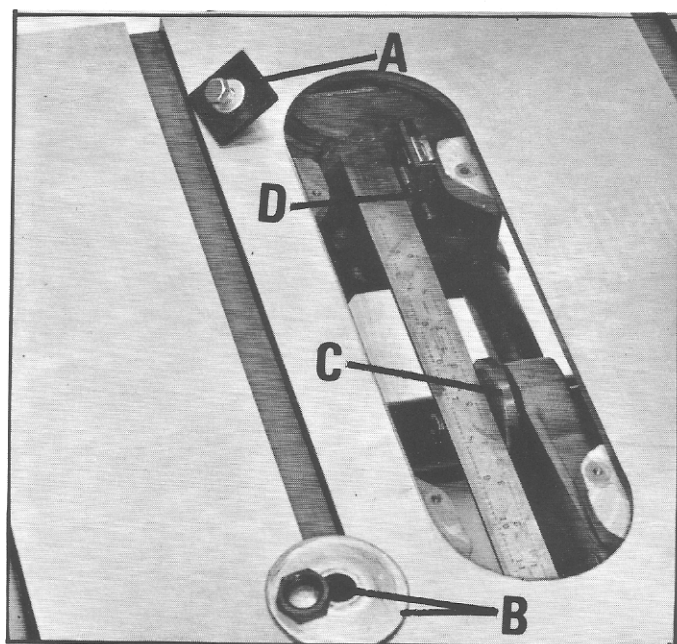

Fig. 19
1. Remove cap screw, washer and outer splitter bracket holder (A) Fig. 19. Also remove blade, blade arbor nut and flange (B).
2. Hold a straight edge against the saw arbor flange (C) and splitter bracket (D) Fig. 19, and check for alignment on the top and bottom of the splitter bracket (D). If an adjustment is necessary loosen two screws that hold splitter bracket (D) to the trunnion and shift the bracket (D) to bring it into alignment with saw arbor flange. Then tighten the two screws that hold splitter bracket. NOTE: Snap out the nut retainer in the splitter bracket to make this adjustment easier to perform.
6. Assemble the center portion of the splitter to the splitter bracket (D) Fig. 19, and replace splitter bracket holder (A) Fig. 19.